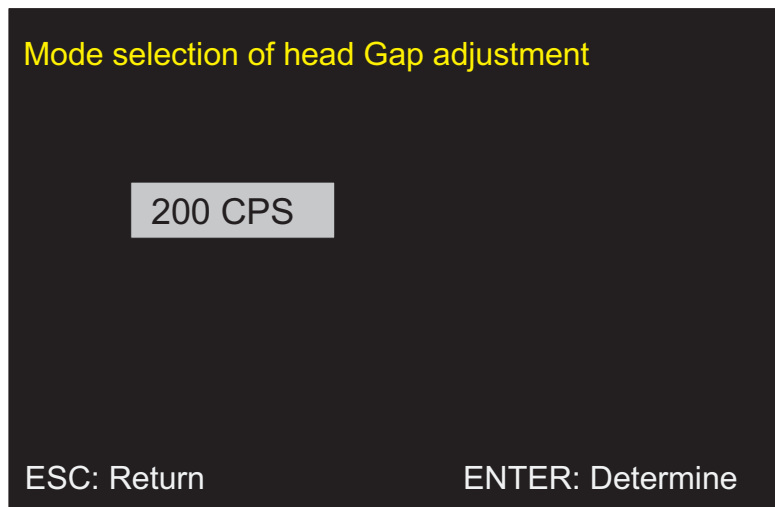

Figure 5-39. Screen After Selecting "Adjustment"
- Step25. Press Return key. (It goes to the screen of figure5-39)